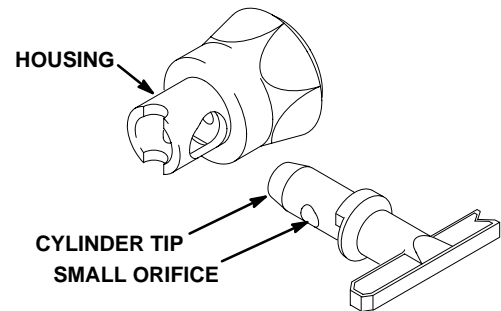

Fig. 9
3. Install the cylinder tip in the housing so its small orifice faces front. See Fig. 9.